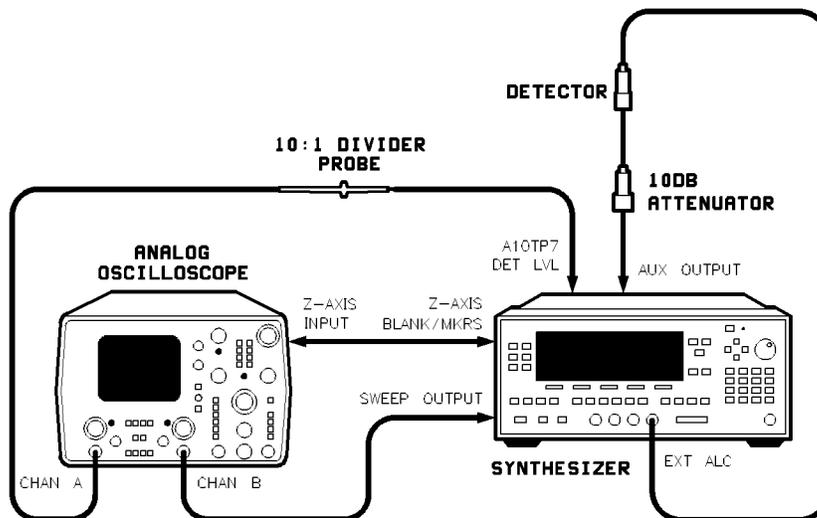

Figure 3-14. Amplifier/Multiplier Adjustments Setup
1. Connect the equipment as shown in Figure 3-14 using an analog oscilloscope with A versus B sweep capability. Power on all the instruments and let them warm up for at least one hour.